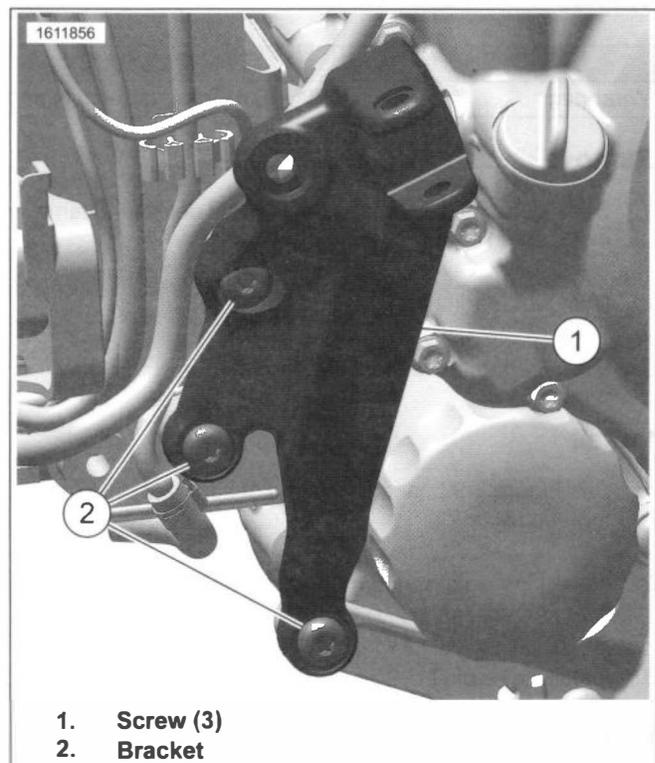

Figure 3-99. Left Side Footrest Bracket
1. See Figure 3-99. Remove screws (2).
2. Remove bracket (1).
1. See Figure 3-99. Install bracket (1).
2. Install screws (2). Tighten.